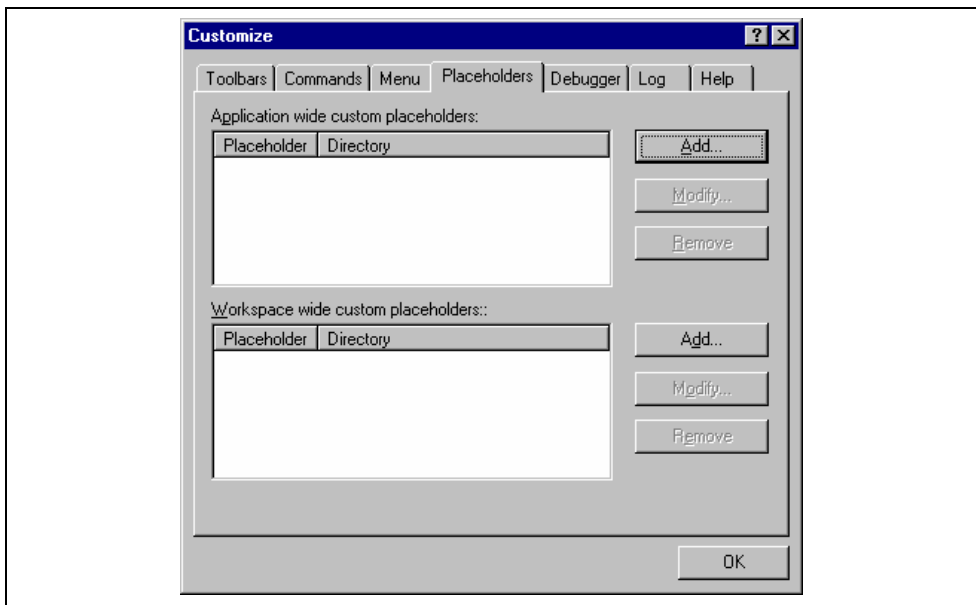

Figure 6.14: Customize Dialog Placeholder Tab
1. Select [**Tools>Customize...**]. The dialog shown in figure 6.1 will be displayed. Select the “Placeholders” tab (figure 6.14).